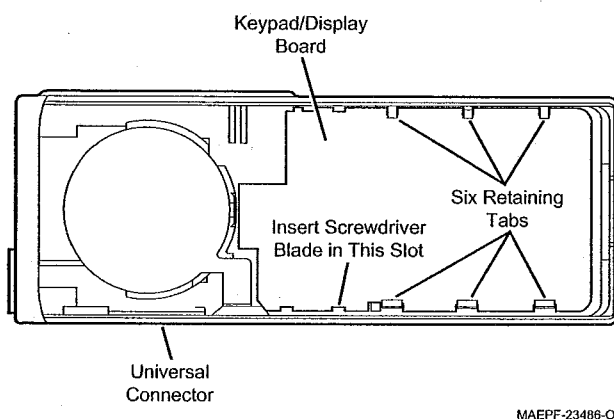

Figure 3.9
- On front display model radios only, notice that the keypad/display board is secured to the front cover housing using six tabs, three small tabs on one side and three larger tabs on the universal connector side. Remove the keypad/display board by inserting a small flat-blade screwdriver in the circuit board slot provided (slot nearest the top retaining tab on the universal connector side of the radio, (See Figure 3.9). A slight prying action will release the keypad/display board. If applicable, remove the rubber keypad.